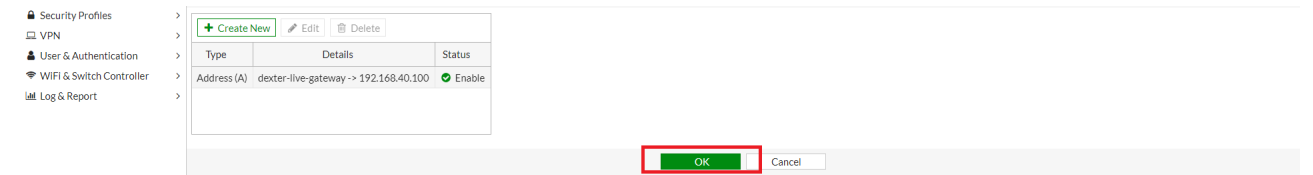

Figure 17
10. After being redirected back to Edit DNS Zone, select "OK". (Figure 17)